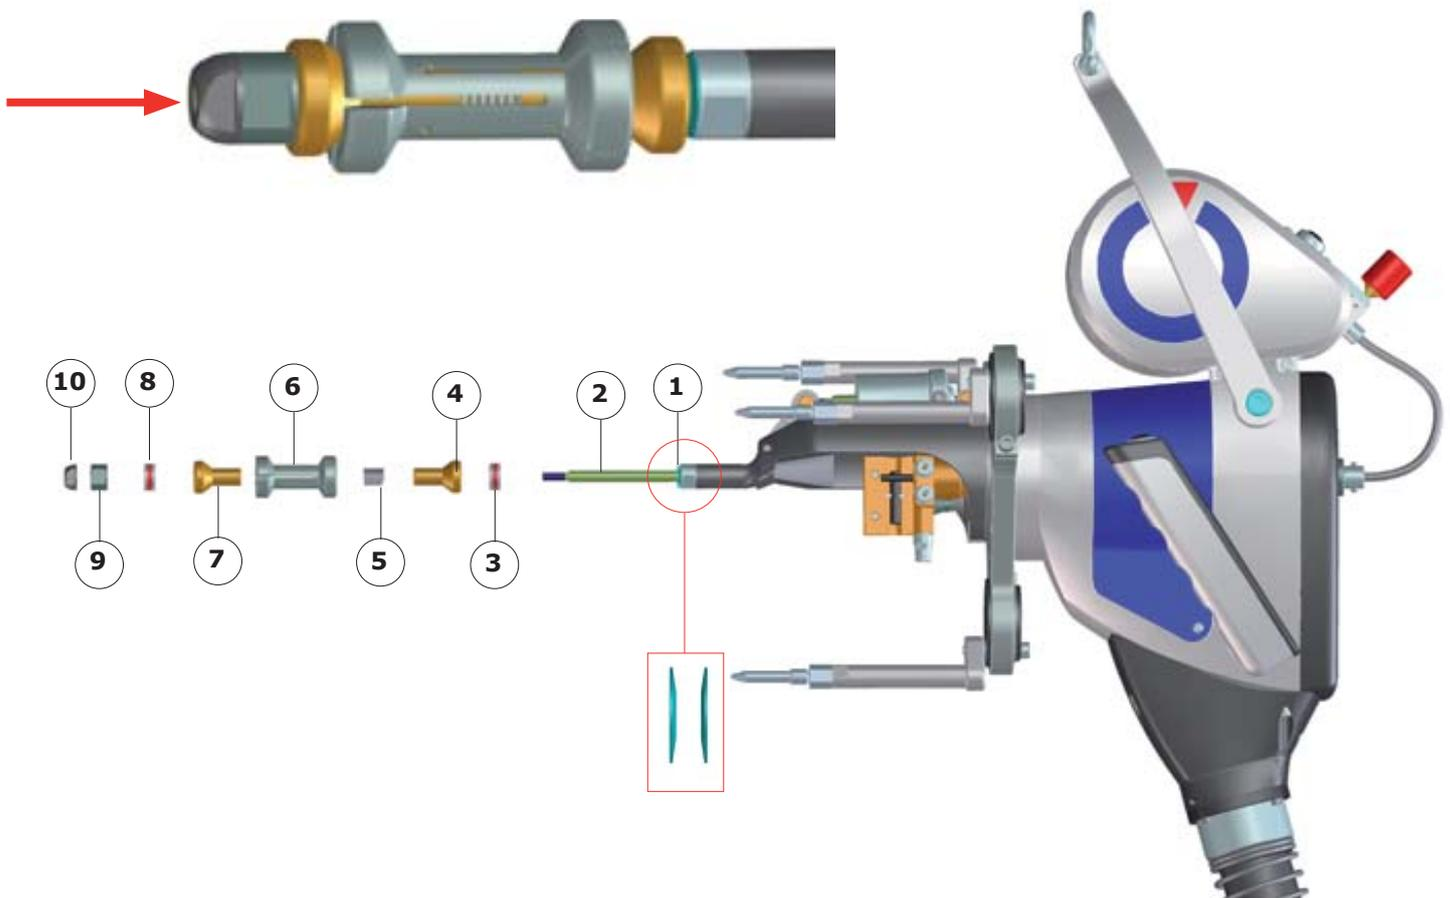

Fig.5.38 - Installing an expansion mandrel
- Place the 2 spring washers (Fig.5.38 - 1) (see configuration detail) and an axial stop (Fig.5.38 - 3) on the tie rod (Fig.5.38 - 2).
- Insert the rear part of the cone (Fig.5.38 - 4) and the compression spring (Fig.5.38 - 5).
- Put the mandrel in place (Fig.5.38 - 6).
- Put the front part of the cone (Fig.5.38 - 7) and the second axial stop (Fig.5.38 - 8) in place.
- Tighten the nut (Fig.5.38 - 9) and the locknut (Fig.5.38 - 10).